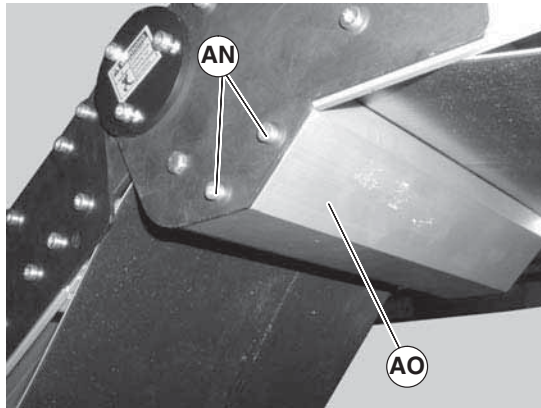

Figure 76
1. Remove screws (Figure 76, item AN) on both sides of knuckle and remove guard (AO).